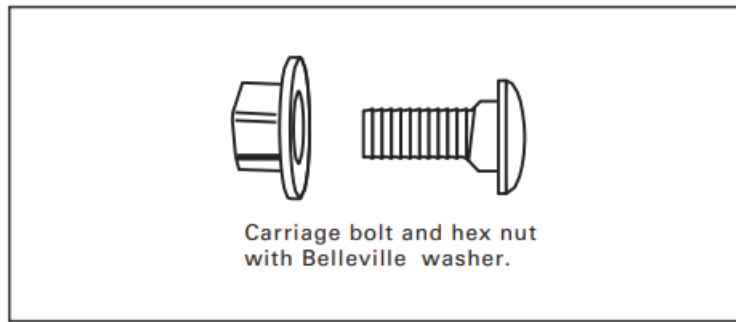

Figure 10. Hardware
- The manufacturer has provided hardware with the equipment to join switchboard sections. The hardware includes 3/8" x 1 1/8" carriage bolts and 3/8" hex nuts with captive Belleville-type washer. (See Figure 10.)